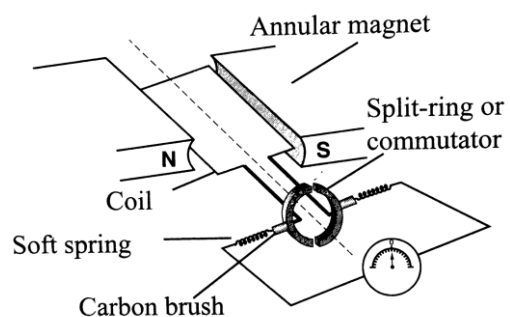

Figure 1: DC generator
- **Figure 1** shows an illustration of a DC generator.
- As the coil rotates about its axis, it cuts across the magnetic field lines of the annular shaped permanent magnet, as such current is induced in the coil and it is indicated by the deflection of the connected galvanometer. (**Figure 1**)